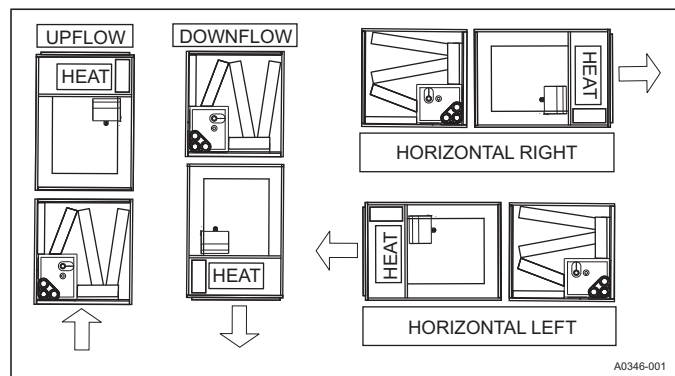

FIGURE 2: Typical Installation
These air handler units are supplied ready to be installed in an upflow, downflow, horizontal right, or horizontal left position. See Figure 2. The unit requires no conversion procedures.
3. Position blower casing over appropriate coil opening (depending on configuration). See Figure 2.